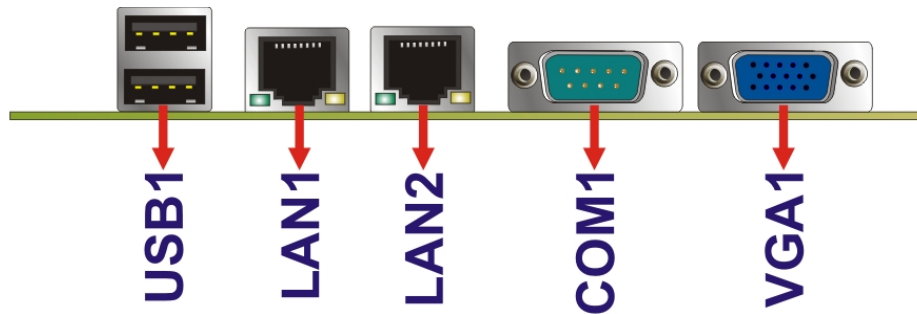

Figure 3-20: External Interface Connectors
Figure 3-20 shows the WAFER-PV-D5251/N4551 motherboard external interface connectors. The WAFER-PV-D5251/N4551 on-board external interface connectors are shown in Figure 3-20.
- CN Location:** See **Figure 3-20**